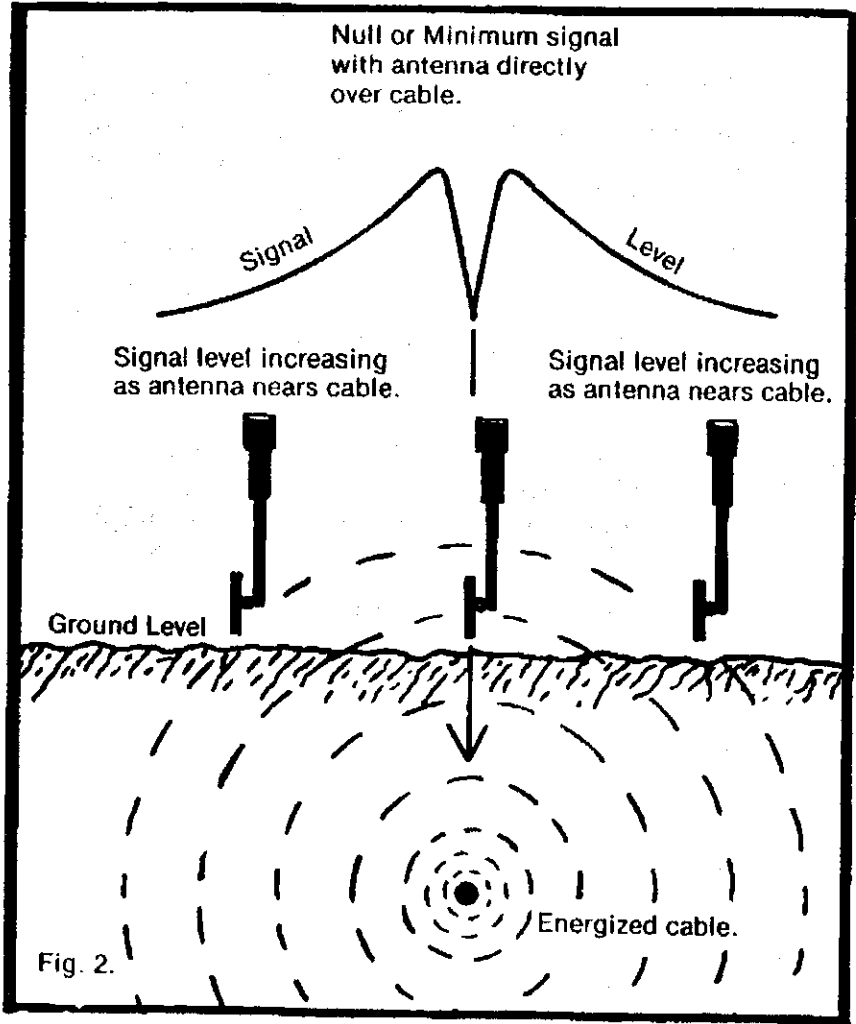

Fig. 2.
**IV. — NULL —** See fig. 2. With the antenna vertical to the ground (parallel to the extension arm), the meter reading will increase as the antenna approaches the energized cable. Directly over the cable, a loss of signal will be found and the meter will decrease to a zero or minimum level. The signal will return to a high level and then start falling off as the antenna leaves the exact center of the cable. On both sides of the cable, a high meter reading is available, but a loss of signal occurs when the antenna is directly over the cable.
With the receiving antenna moved to the vertical position (see fig. 2), adjust the sensitivity control for an on-scale meter reading. Walk in the direction the meter reading increases. As the antenna crosses the energized cable, the meter will fall to some lower reading and then will return to a higher level on the other side of the cable. The center of the cable will be directly below the null or minimum meter reading.